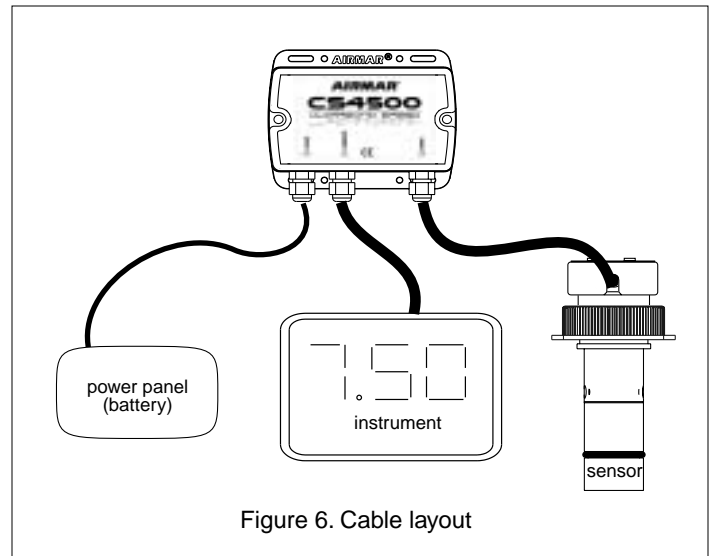

Figure 6. Cable layout
1. Select a convenient, *dry*, mounting location for the waterproof junction box, about 1–2m (3' – 5') from the instrument (see Figure 6).